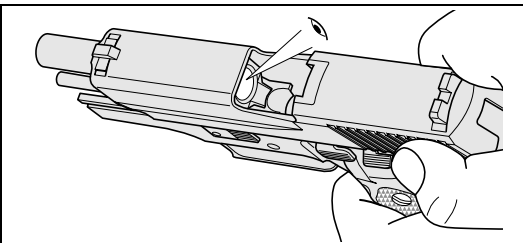

Fig. 3
5. Check visually and manually with a tool that the round was ejected and that no other round is chambered (see Fig. 3).
3. Check that no round is chambered (see Fig. 3).